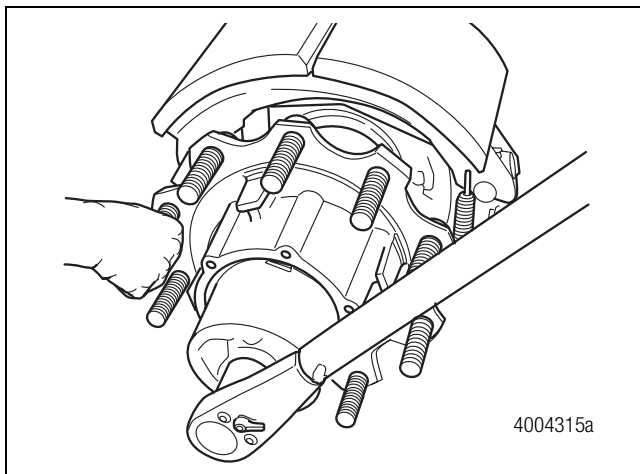

Figure 4.28
8. Install the spindle nut and turn it down the spindle threads while rotating the hub until the nut drives the seal onto the axle oil seal collar and drives the hub against the spindle backup collar. A minimum of five turns should be made during this tightening. Figure 4.28.
9. Use a torque wrench to tighten the spindle nut to 525-550 lb-ft (714-748 N•m) while rotating the hub a minimum of five complete turns. Because of the high torque required, a torque multiplier is helpful. Figure 4.28. **ⓘ**